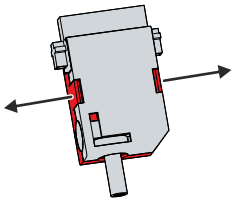

Fig. 14: Disassembly of the strain relief housing
1. Use your fingers to bend the latching lugs on the lower part slightly outwards (see Fig. 14).